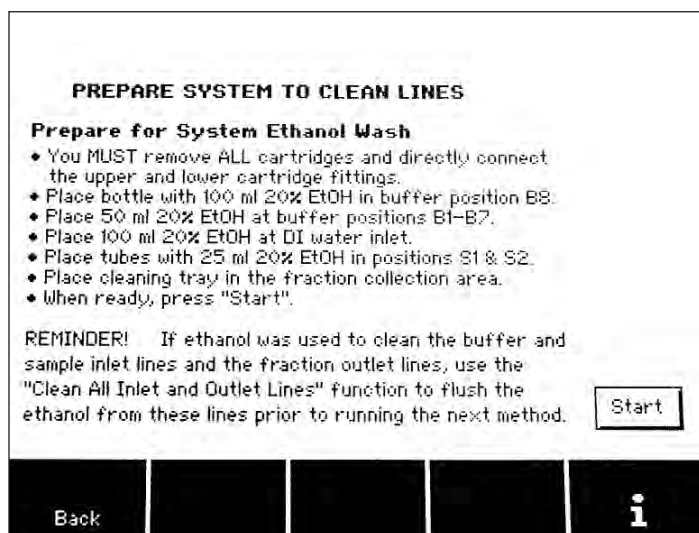

Fig. 9.11. Prepare System to Clean Lines, system ethanol wash screen.
4. Follow the reagent placement instructions displayed on the screen (Figure 9.11).